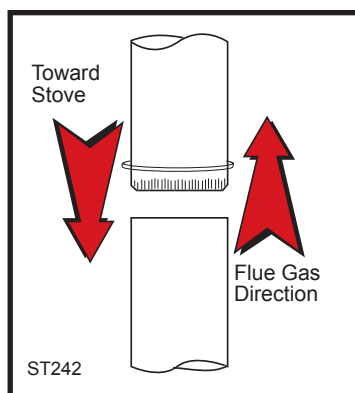

Fig. 4 Chimney connector.
- Begin assembly at the flue collar of the stove. Insert the first crimped end into the stove's flue collar, and keep each crimped end pointing toward the stove. (Fig. 4) Using the holes in the flue collar as guides, drill 1/8" (3 mm) holes in the bottom of the first section of chimney connector and secure it to the flue collar with three #10 1/2" sheet metal screws. Lift off the griddle, and shield the stove's surface between the griddle opening and the front of the flue collar to protect the finish when you drill the front hole.